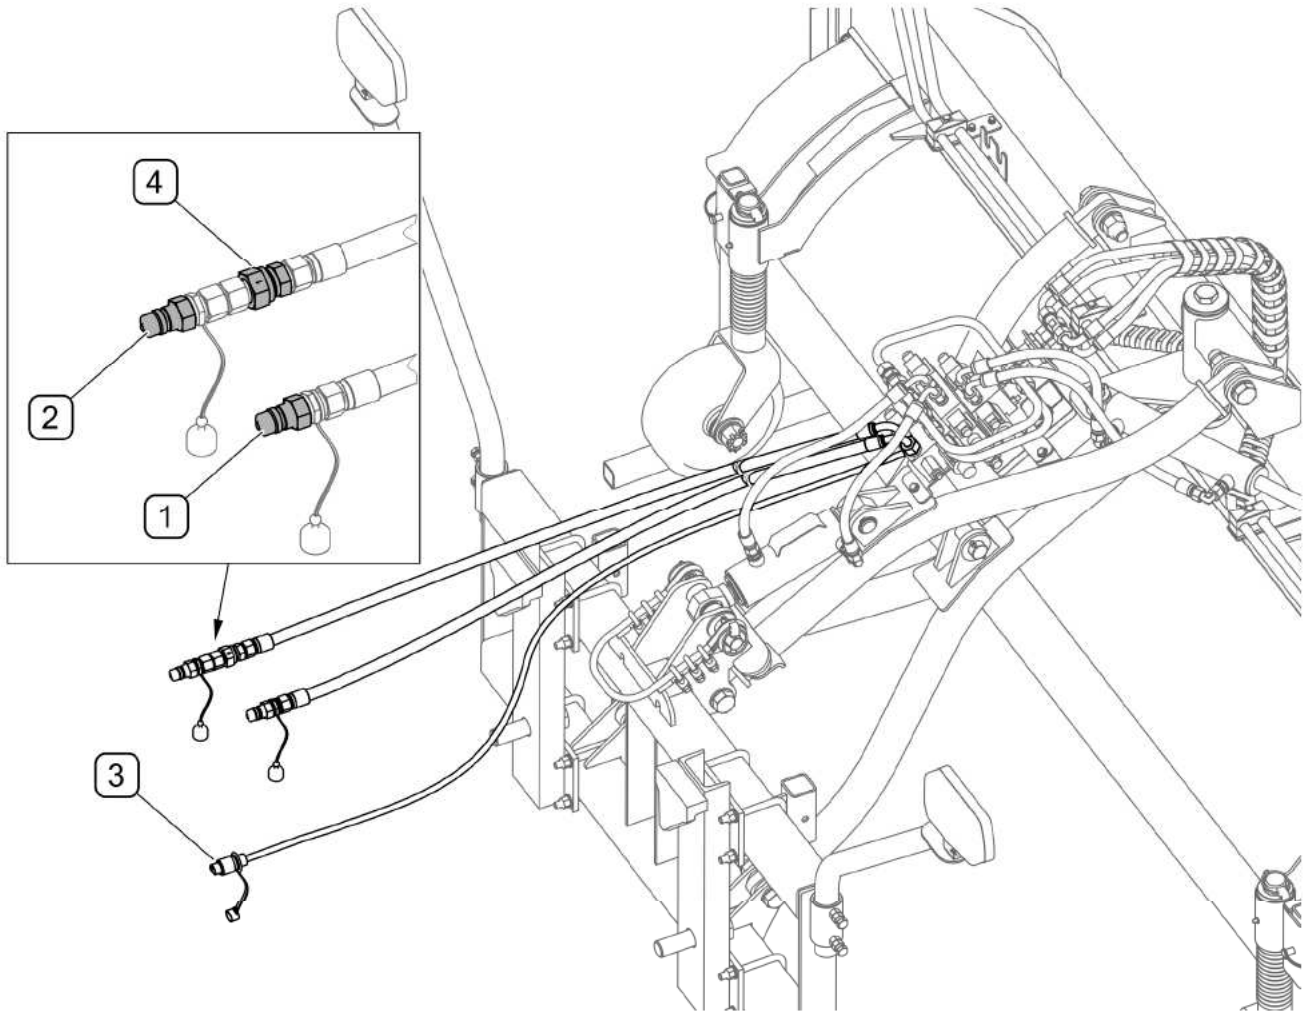

FIG. 4.3 Connecting the electrical system and hydraulic system (ZM-S25)
Connect hydraulic connection (2) equipped with non-return valve (4) as oil return to the carrying vehicle's hydraulic system (FIG. 4.3)
- 1) Drive the carrying vehicle to the sweeper's linkage to a distance of about 30 cm from the linkage and immobilise the vehicle with parking brake. Connect electrical system supply plug (3) to the socket installed on the front of the carrying vehicle (FIG. 4.3). Connect the control panel with the sweeper using a lead (if it is disconnected). Connect oil supply hydraulic connection (1) and oil return hydraulic connection (2) to the carrying vehicle's hydraulic system (FIG. 4.3).